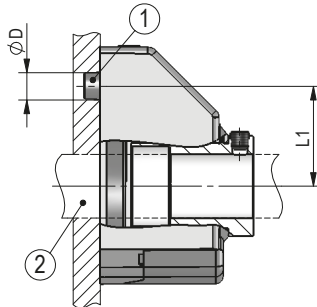

Fig. 1: Mounting dimensions
- ▶ Ensure a low shaft and angle offset between shaft and accommodation bore by applying appropriate manufacturing methods (see Fig. 1 + Tab. 1).
#### Preparing mounting (Fig. 1, Fig. 2, Fig. 3):
1. Make bore ( $\varnothing D$ ) with distance (L1) to the driving shaft ②.
2. Pay attention to the diameter of the drive shaft ②.
**Mounting (Fig. 1, Fig. 2, Fig. 3):**
1. Push the position indicator onto the shaft (2) until reaching the stop. Insert torque support (1) into the existing bore (nondistorted mounting). A long hole for the torque support is recommended.
2. Tighten grub screws M4 (3).